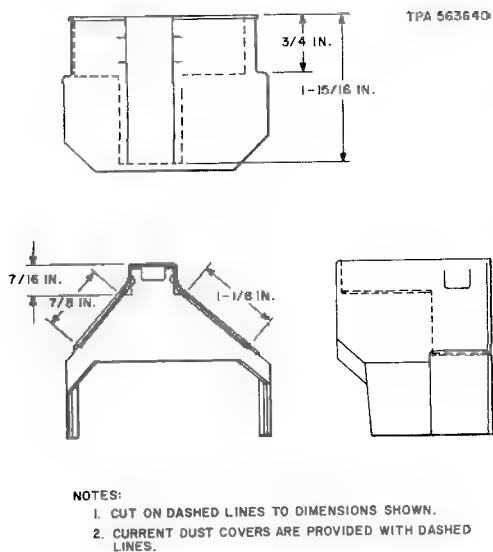

Fig. 30—Outline for Cutting Dust Cover
2.40 When the antidrill guard assembly is used, the existing coin relay plastic dust cover must be trimmed to fit around the guard assembly. Trim the dust cover per Fig. 30 using electrician scissors or side cutters.
Note: Currently manufactured dust covers are provided with guide lines to follow when cutting. When these lines are provided, disregard Fig. 30.